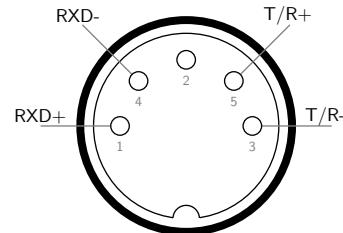

Figure 2.2: DIN-5 male connector (solder side).
1. To minimise the number of connections that need to be soldered, a MIDI cable may be used. Alternatively, solder the pins of a male DIN-5 connector as shown in Figure 2.2. Note that the pin numbers shown in the diagram are for the solder side of the connector. Also note that the DIN-5 connector pins are not numbered sequentially.